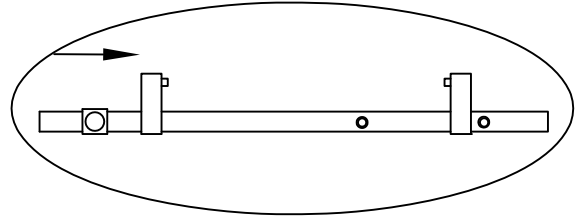

Fig. 8
- Position the Top Rail (2) and Large Fixed Glass (3) as shown in Fig.8 and connect Large Fixed Glass (3) to Top Rail (2) following the assembly sequence shown in Fig.8. Note in Fig.8, one Door Stopper (1) should be positioned between mounting holes in Top Rail (2) before connecting Top Rail to Large Fixed Glass.